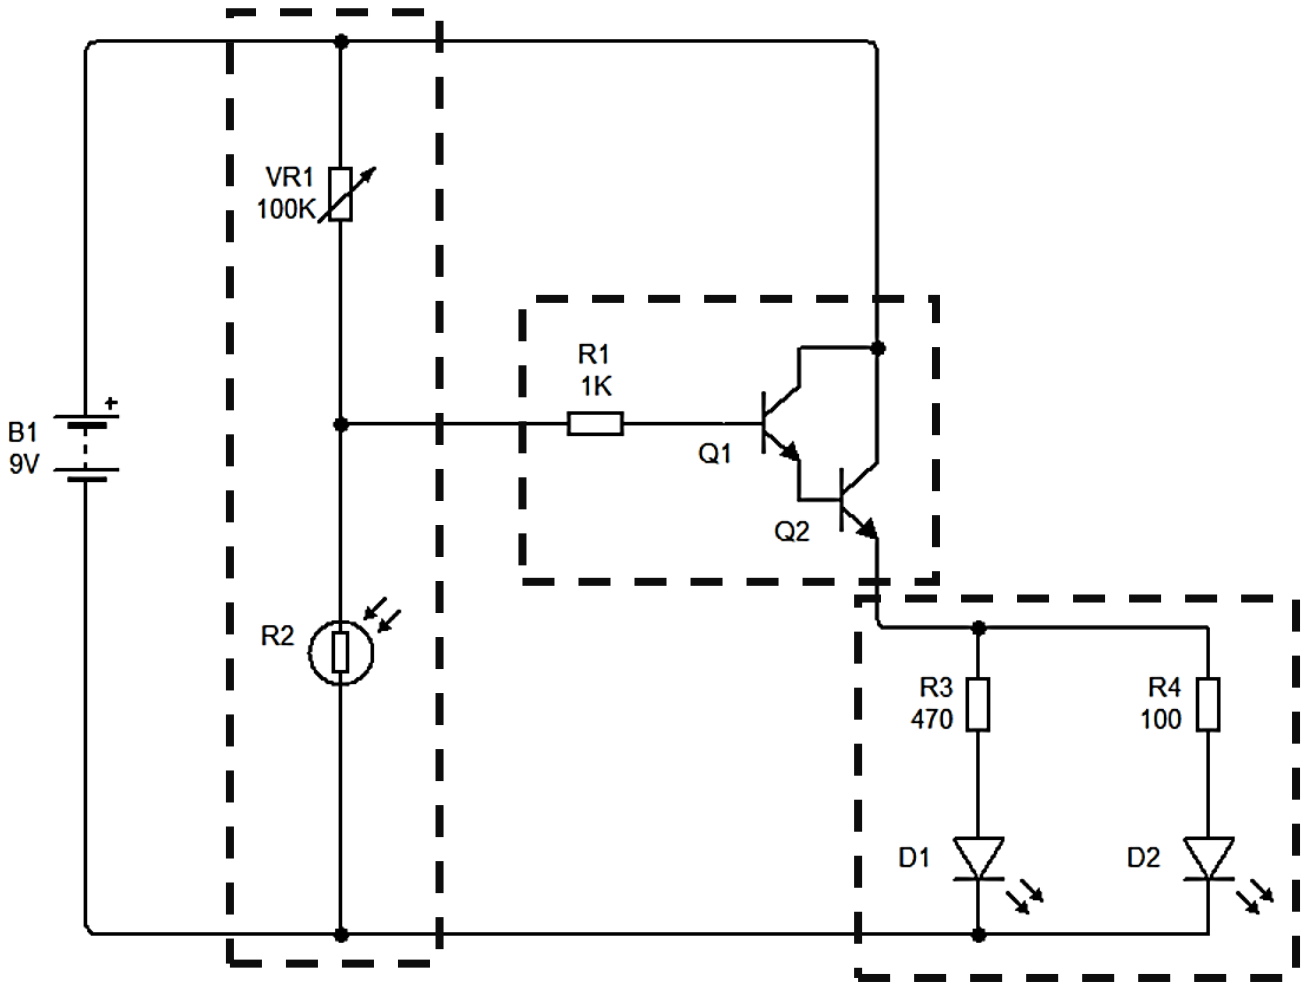

Figure 7
18. A set of different LEDs were fitted to a display to attract more customers. Figure 7 shows a circuit to operate the LEDs when customers pass in front of the display.
- a. Different subsystems are marked on the circuit diagram with a dashed square. On Figure 7, label the input, process and output subsystems. (2)
- b. Give the name of the configuration of components Q1 and Q2 on Figure 7 and suggest a reason why this configuration was used in the system.
iii. Decide whether a latching or a momentary switch would be more suitable to be added as a power switch for the circuit shown in Figure 7. Give a reason for your answer.
d. The circuit shown in Figure 7 makes use of different types of LEDs.
iii. Using calculations, find out which LED in Figure 7 consumes more power.
19. The system shown in Figure 7 was redesigned to be controlled by microcontrollers.